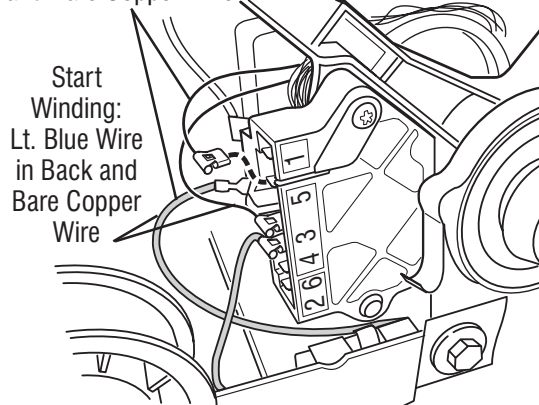

Figure 18 - Main and start winding measure points.
9. Remove the bare copper wire terminal from pin 5 of black drive motor switch. See figure 18.
10. Using figure 18 and the strip circuit on page 22, check for the resistance values of the motor's Main and Start winding coils as shown in the following table.